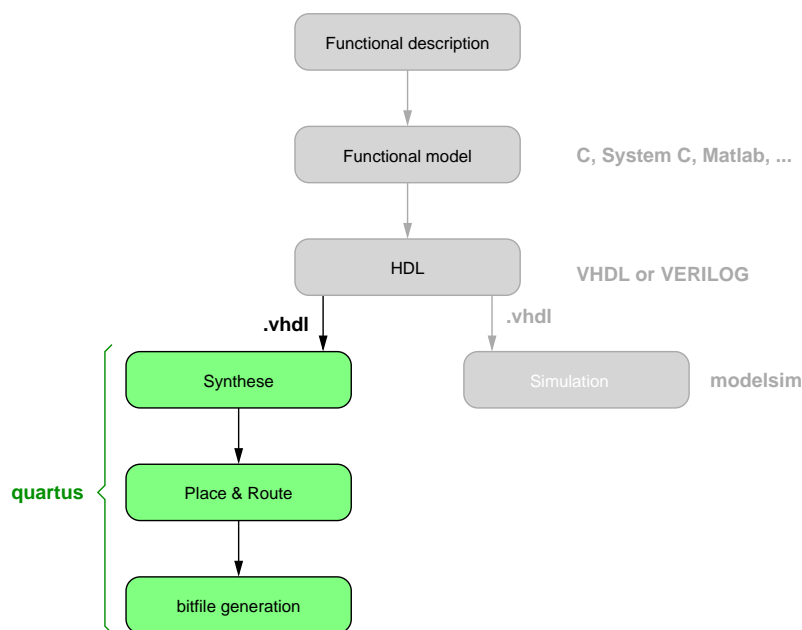

Figure 1: Second part of the FPGA design flow
In the last exercise you learned about the first part of the FPGA design flow, the simulation. Once a system confirms the design specifications, it can be implemented on an FPGA. This implementation on the FPGA is the second part of the FPGA design flow. It consists of the synthesis (1), placement and route (2) and the generation of the bit-file (3) which is downloaded to the FPGA (see figure 1). In this exercise, a blinking light will be implemented on the GECKO4-Education.